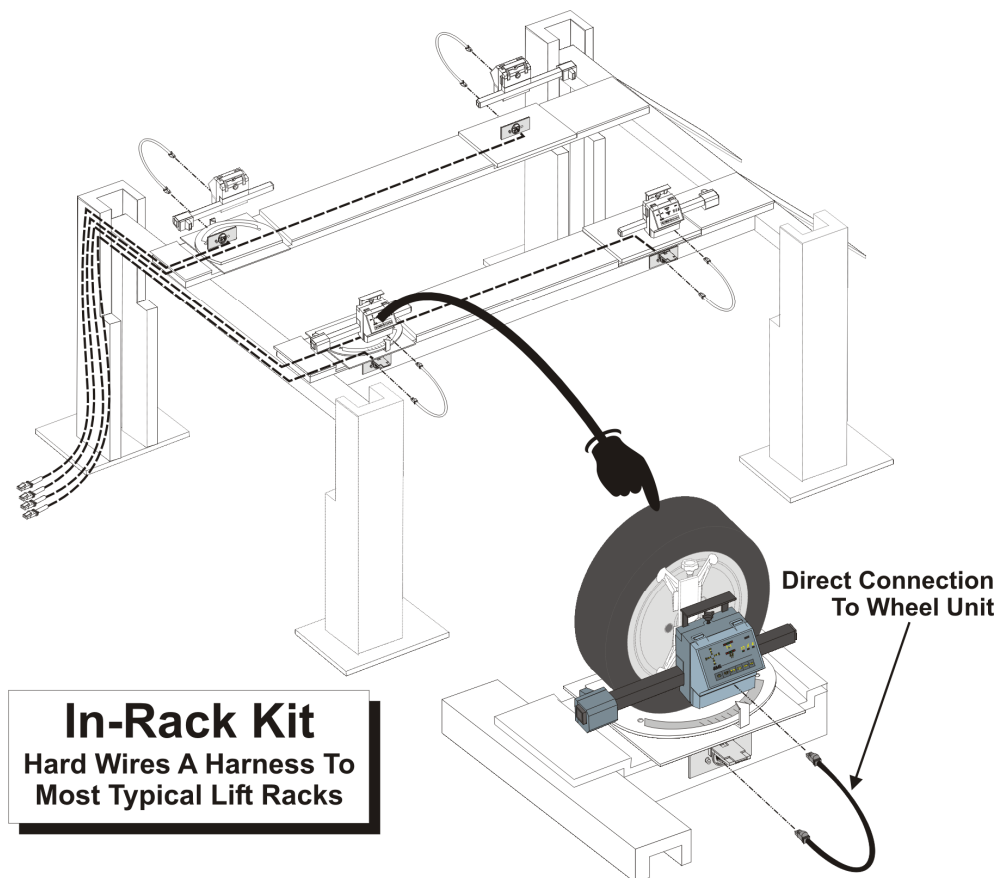

Figure 1-5. In Rack Kit - Overview Diagram
- 1.2.6.1 This kit consists of wires and accessory equipment to hardwire a harness into your lift rack. Therefore, this container can be opened, after the unit is assembled. Refer to Figure 1-5.